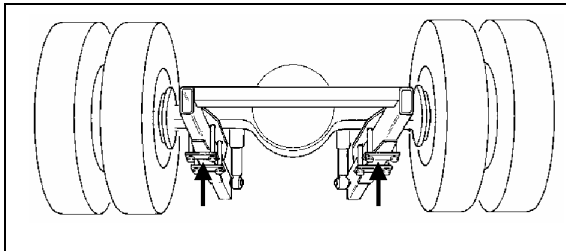

FIGURE 4: JACKING POINTS ON DRIVE AXLE 11005
8. Install jacks under the axle jacking points to support the axle weight (refer to figure 4).